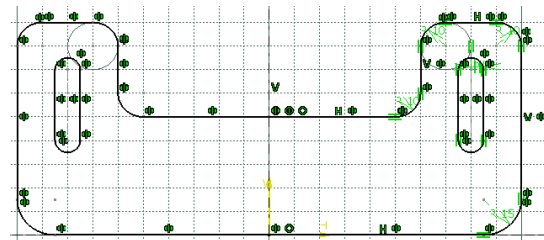

Figure 3-61 The sketch after mirroring
- Mirror the sketch along the vertical axis of origin, refer to Figure 3-61.
3. Select the vertical axis of origin. The sketch is mirrored to the other side of the selected axis, as shown in Figure 3-61.